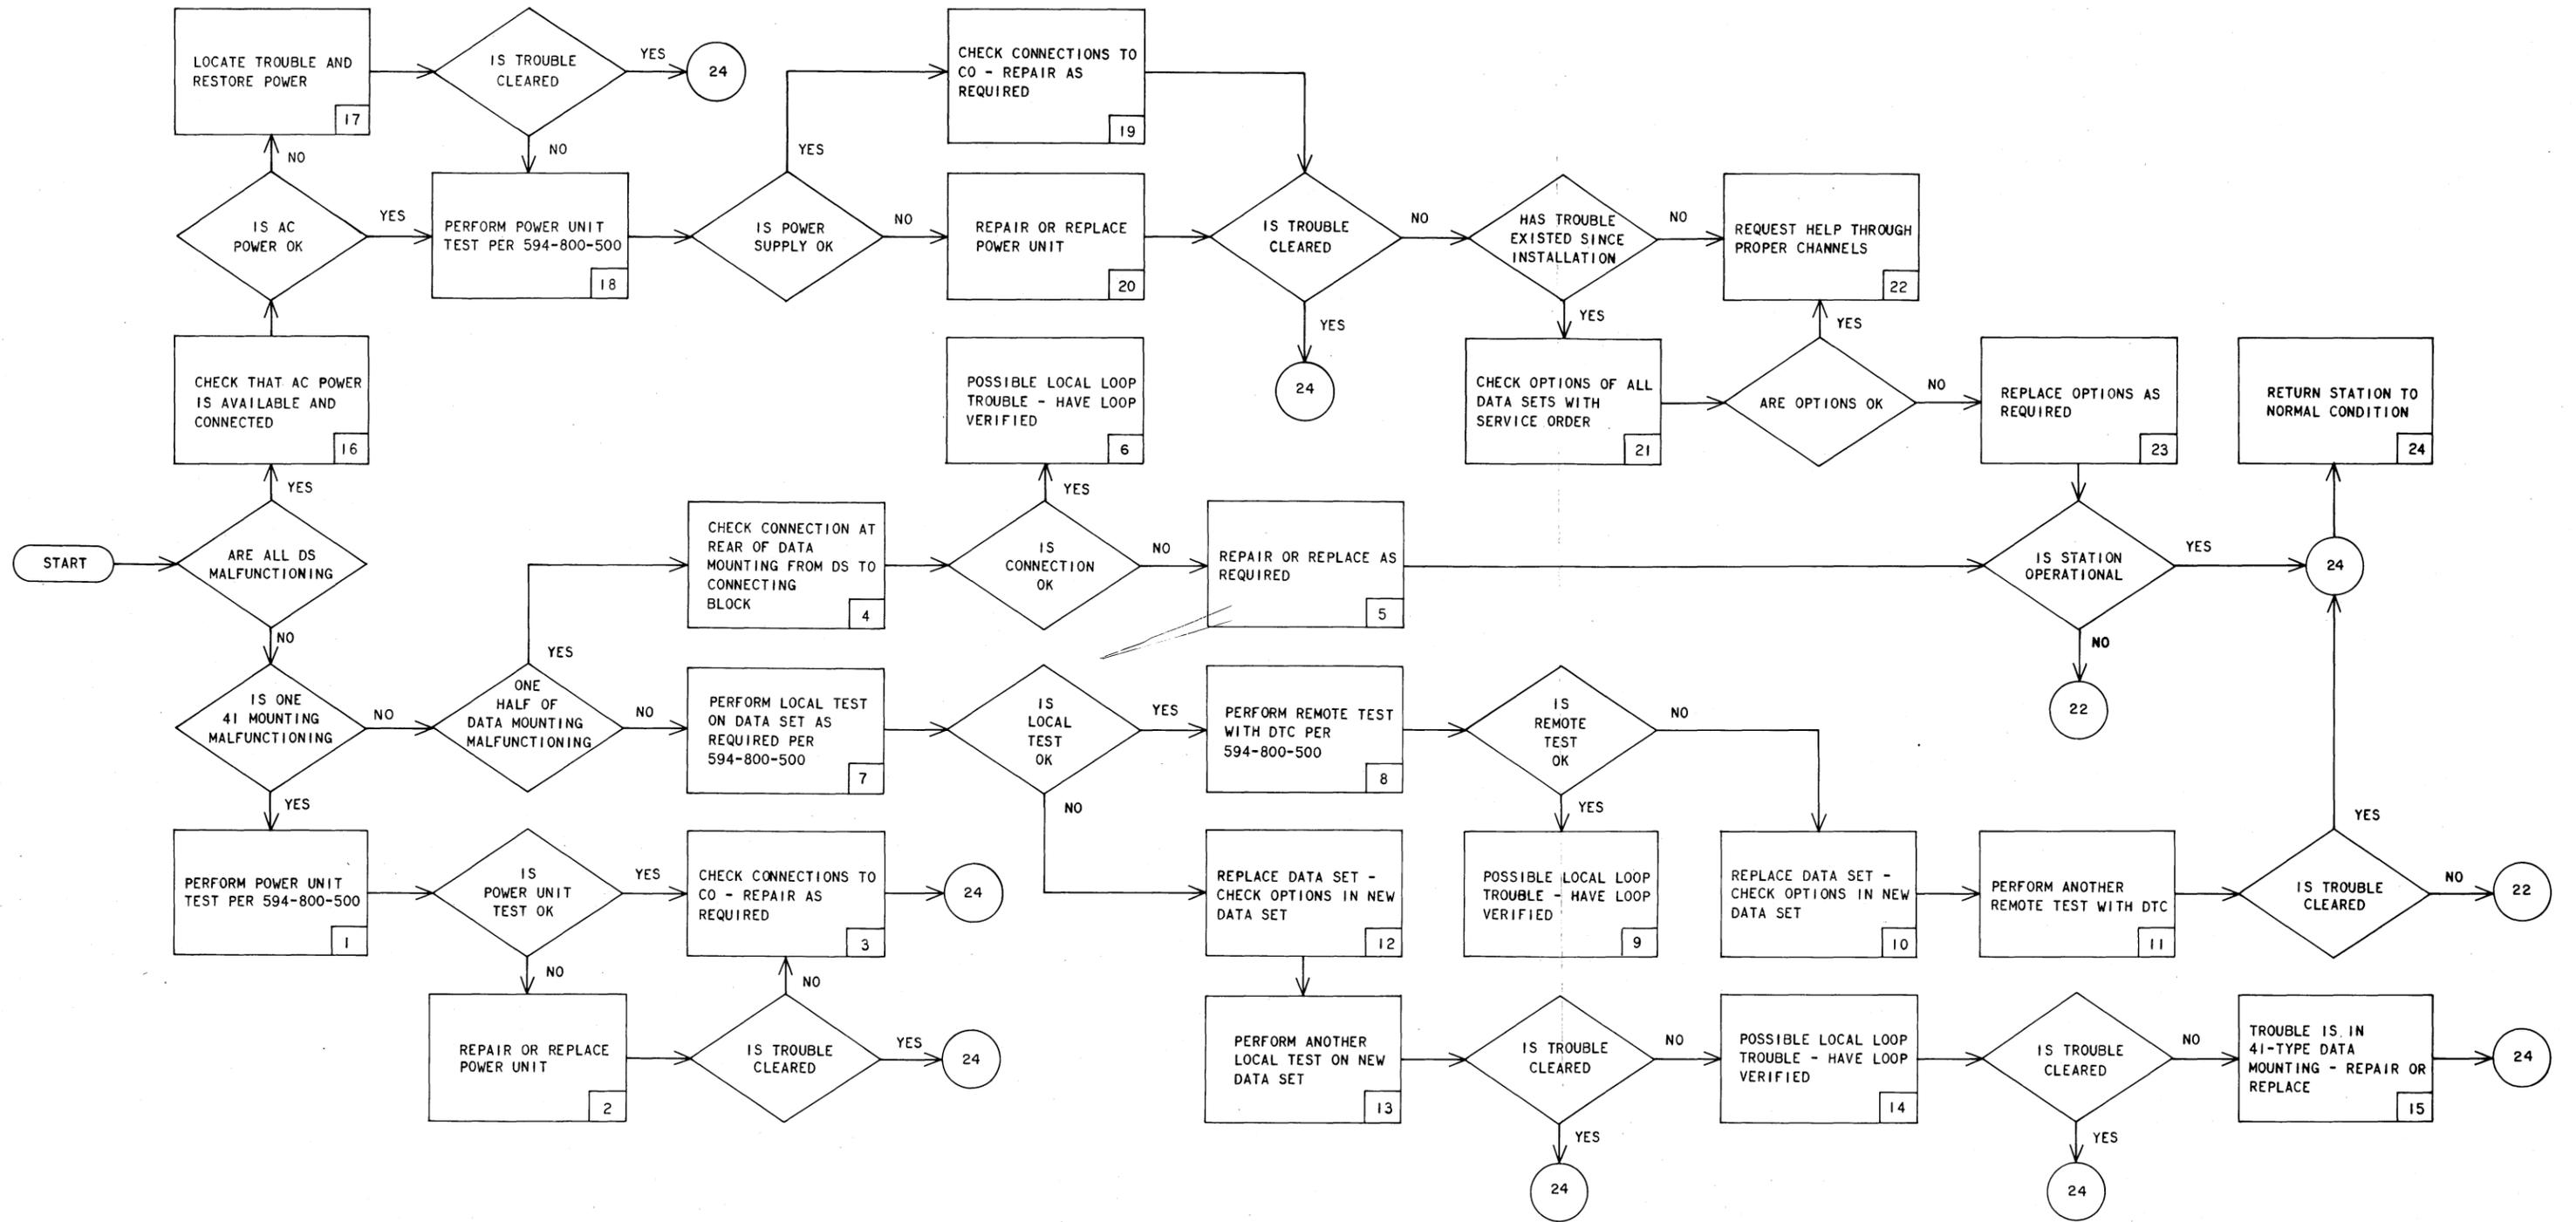

Fig. 1—Troubleshooting Flowchart for 407-Type Multiple Data Station
**4.01** Troubleshooting the ◆407-type◆ multiple data station should be in accordance with the flowchart shown in Fig. 1. The flowchart is a recommended procedure to follow when investigating system trouble. The information blocks in the flowchart are numbered to provide easy reference. The diamond represents a decision to be made, while the circles provide a means of referring to another numbered information block in the flowchart.